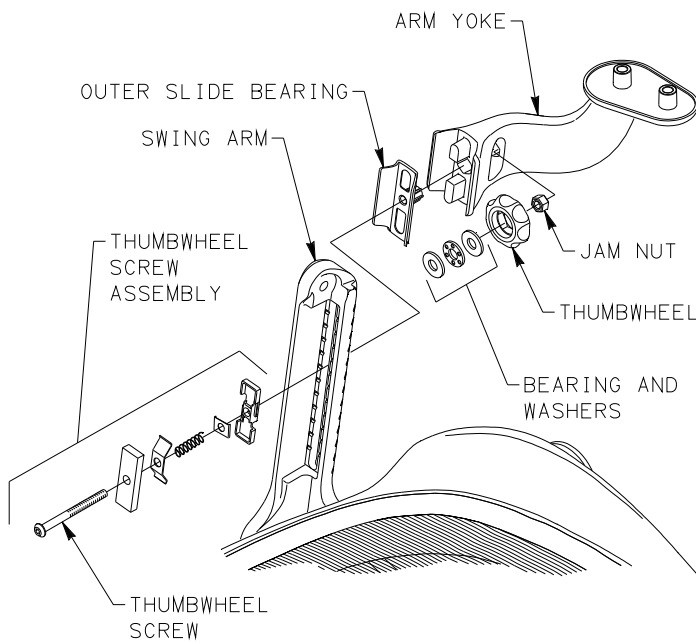

FIGURE 6
-FOR FIXED ARM, USING T-27 TORX BIT AND RATCHET WRENCH, REMOVE AND SET ASIDE TORX HEAD SCREW HOLDING ARM YOKE TO SWING ARM. REMOVE ARM YOKE AND DISPOSE OF PROPERLY. SEE FIGURE 6.
-FOR FIXED ARM, INSTALL ARM YOKE TO SWING ARM. INSERT RETAINING PLATE AND TORX HEAD SCREW. TIGHTEN AND TORQUE TO 100-125 IN-LBS. SEE FIGURE 6.